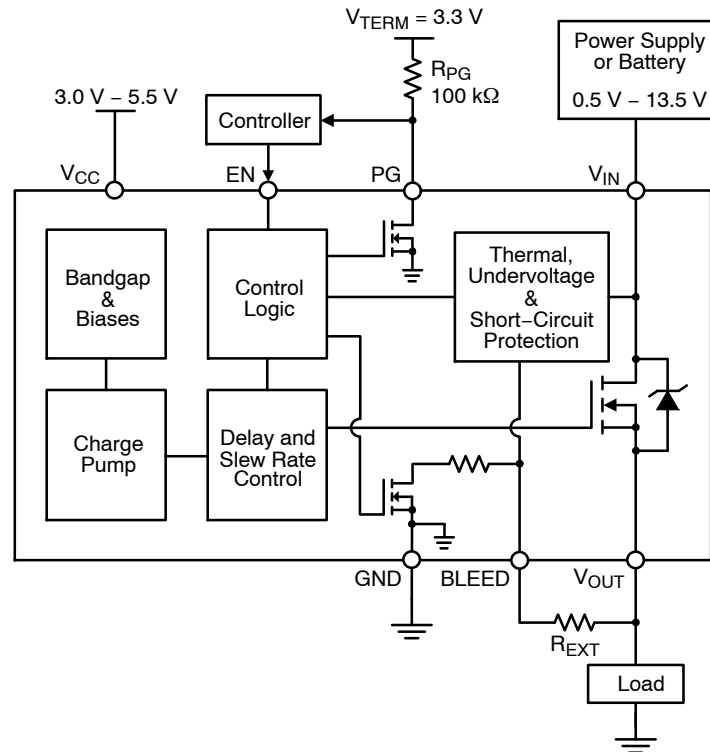
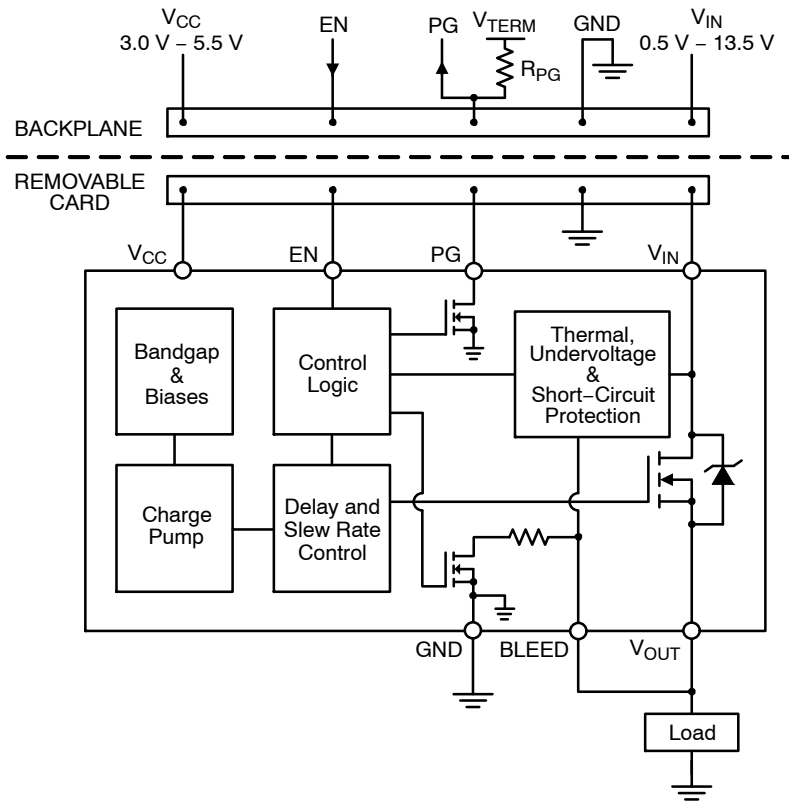

Figure 3. NCP45520 Typical Application Diagram - Load Switch
Figure 4. NCP45520 Typical Application Diagram - Hot Swap
It is required that the BLEED pin be connected to V_{OUT} either directly (as shown in Figures 4 and 7) or through an external resistor, R_{EXT} (as shown in Figures 3 and 6). R_{EXT} should not exceed 1 kΩ and can be used to increase the total bleed resistance.
The NCP45520 devices have a power good output (PG) that can be used to indicate when the gate of the MOSFET is fully charged. The PG pin is an active-high, open-drain output that requires an external pull up resistor, R_{PG}, greater than or equal to 1 kΩ to an external voltage source, V_{TERM}, that is compatible with input levels of all devices connected to this pin (as shown in Figures 3 and 4).
Once active, the circuitry monitors the difference in the voltage on the V_{IN} pin and the voltage on the BLEED pin. In order for the V_{OUT} voltage to be monitored through the BLEED pin, it is required that the BLEED pin be connected to V_{OUT} either directly (as shown in Figures 4 and 7) or through a resistor, R_{EXT} (as shown in Figures 3 and 6), which should not exceed 1 kΩ. With the BLEED pin connected to V_{OUT}, the short-circuit protection is able to monitor the voltage drop across the MOSFET.